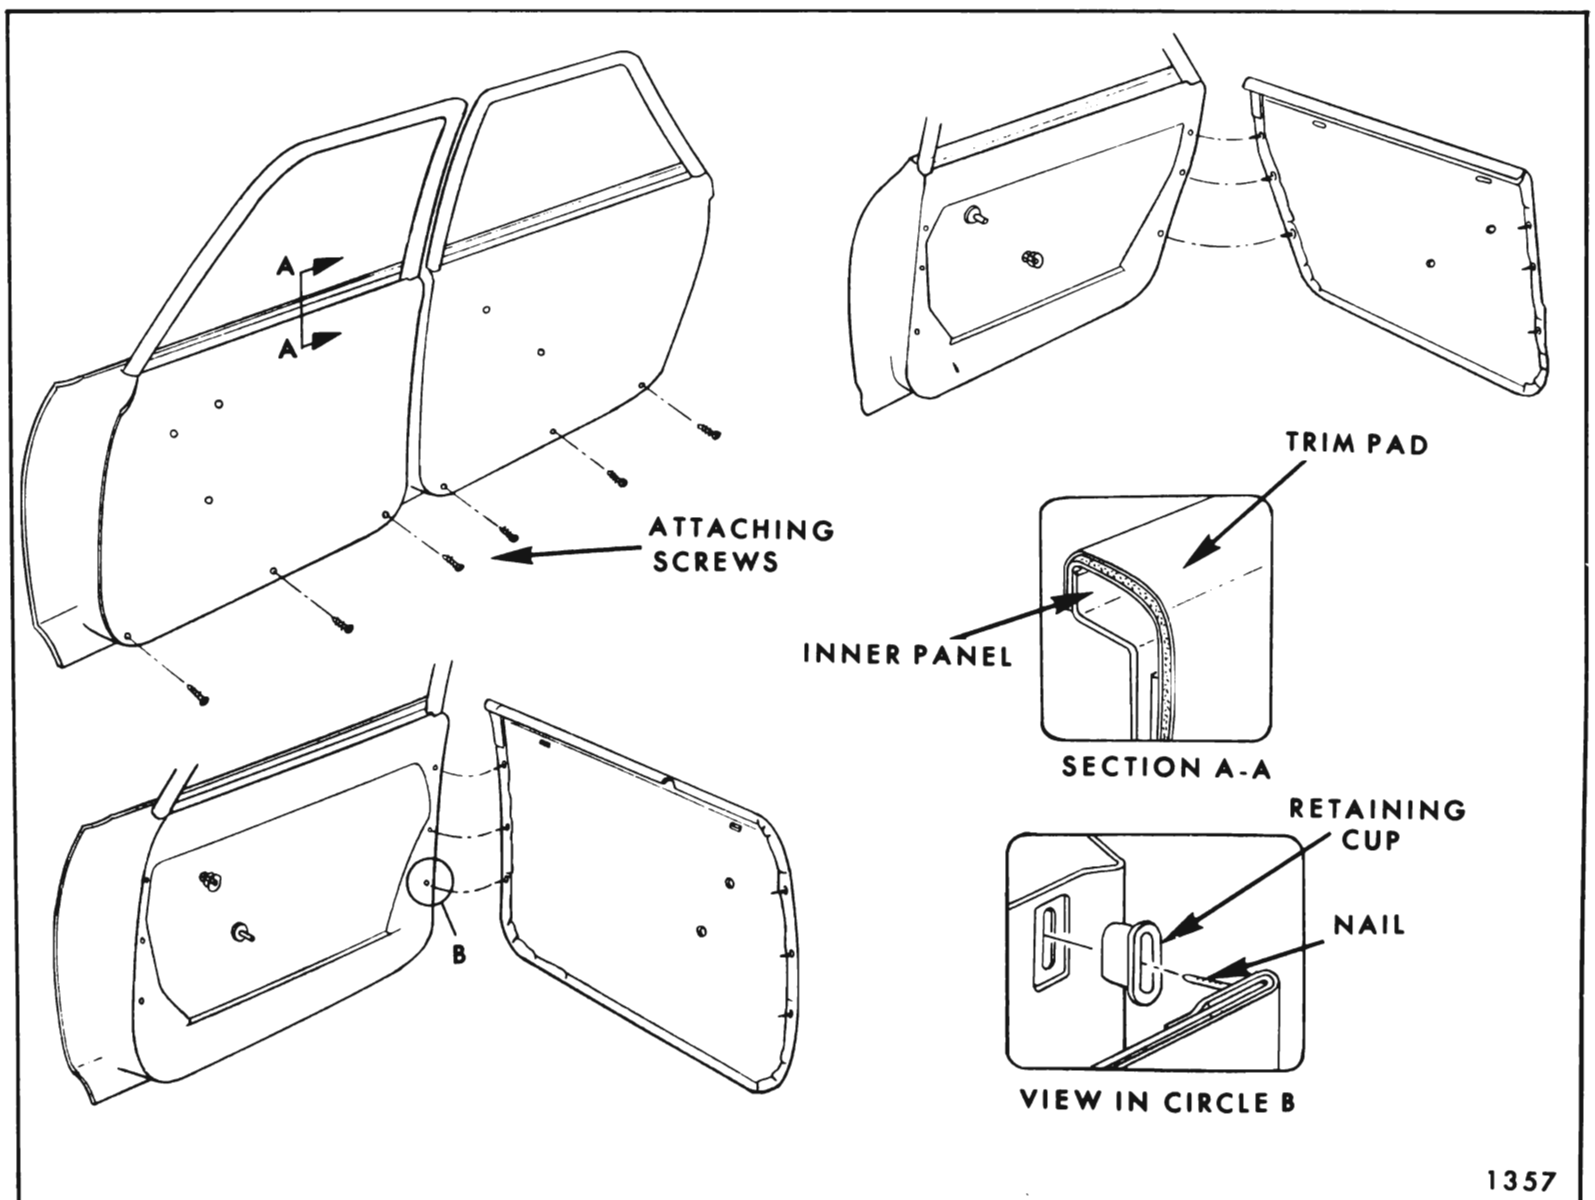

Fig. 7-18—Hang-On Door Trim Pads
- b. Starting at bottom of trim pad, carefully insert tool J-6335, or a suitable flat-bladed tool, between door trim assembly and door inner panel at retaining nail locations and disengage nails from retainers. Remove door trim pad from door. (See Fig. 7-18).